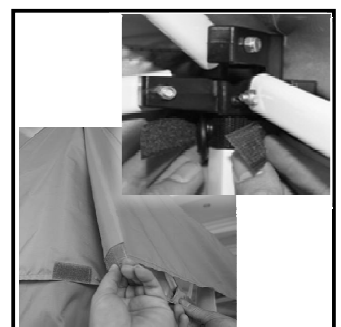

Fig.9
- 5. For quick set up without awnings, skip point 1. g) to remain the extendable awning bars inside the leg tubes. Fix the canopy to the legs and fold the 4 canopy corners and secure with the hook and loop pads attached. (see Fig. 9)